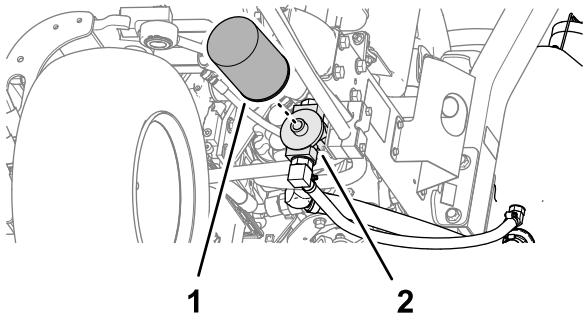

Figure 92
2. Clean around the filter mounting area. Place a drain pan under the filter (Figure 92) and remove the filter.